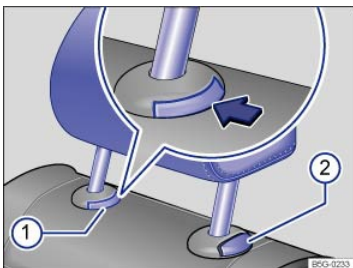

Fig. 85 Removing the rear head restraint.
- Push button ⇒ *Fig. 85①* in the direction of the arrow and hold it in this position.
- At the same time press button ② while a second person pulls out the head restraint completely.
- Push the head restraint down while pressing button ⇒ *Fig. 85②*.